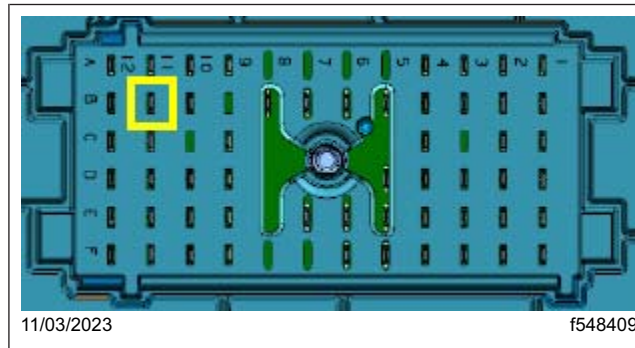

Fig. 58, Inserting the Orange (or Pink) Wire into Cavity B11 of the VPDM J4 Connector
25.5 Insert the orange (or pink) wire into cavity B11 of the VPDM J4 connector. See Fig. 58.